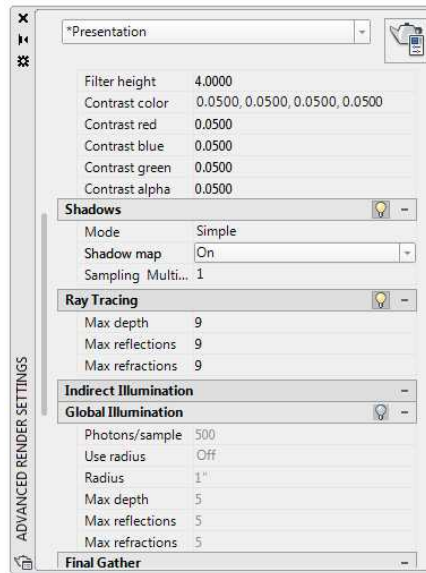

FIGURE 17.17: The Shadows settings in the Advanced Render Settings palette
4. In the Advanced Render Settings palette that appears, scroll down to the Shadows drop-down list and make sure that Mode is set to Simple and that Shadow Map is set to On (see Figure 17.17).